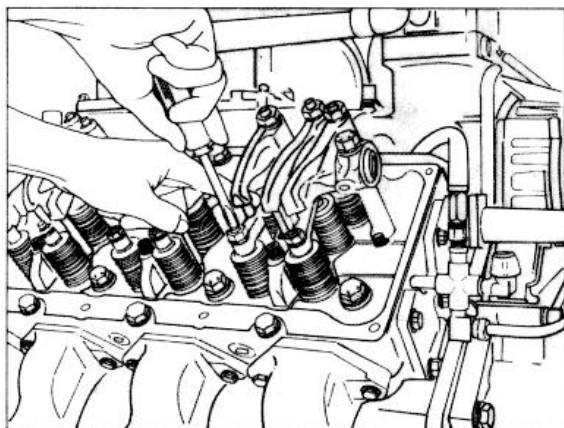

Fig. 2-33, (UM1039L). Adjusting crossheads
3. Turn down the crosshead adjusting screw until it touches the valve stem. Fig. 2-33.